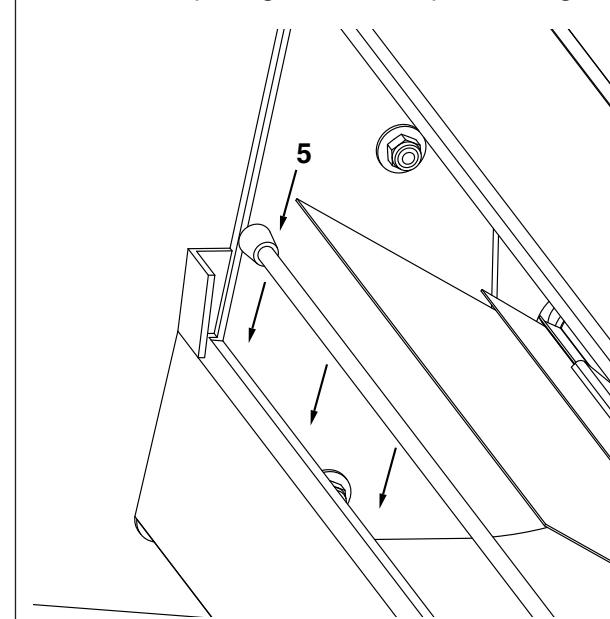

Figure 9
STEP 9: (SEE FIGURE 9)
- Place the lower hopper bag and bag rod (5) into the opening on the sweeper housing.